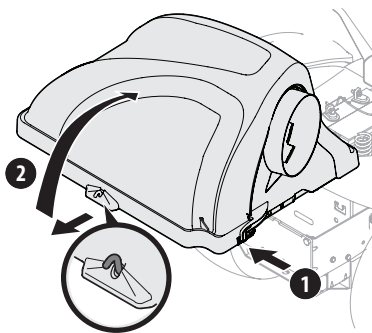

Figure 25
2. Open the bagger cover by pushing in on the rear, right-side tab with your right hand, as seen in (1) of Figure 25, and lifting the cover with your left hand in the center rear of the bagger cover (2). Do not remove the hose assembly from the tractor.